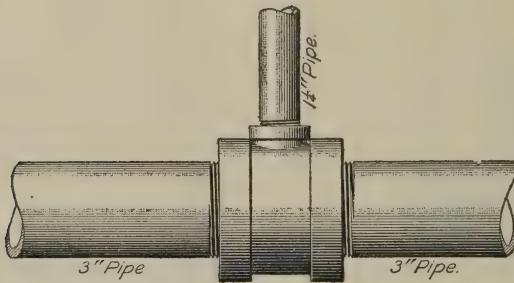

FIG. 13
**25.** When a tee is made so that the branch taken from the main line is smaller than the run, as shown in Fig. 13,
**tee with a reduced outlet.** The tee shown in Fig. 13 is designated as a  $3'' \times 3'' \times 1\frac{1}{4}''$  tee. In other words, it has a 3-inch run and a  $1\frac{1}{4}$ -inch outlet.